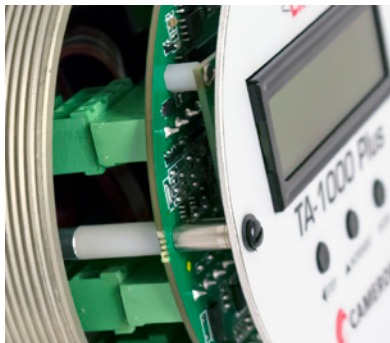

Figure 5.12—Alignment of top circuit assembly over standoffs
13. With the display facing upward, reposition the assembly on top of the standoffs shown in Figure 5.12 so that the standoffs on the left and right align with the mounting holes in the top circuit assembly.
15. With the display facing upward, reposition the top circuit assembly on top of the standoffs shown in Figure 5.12, Page 51 so that the standoffs on the left and right align with the mounting holes in the top circuit assembly.